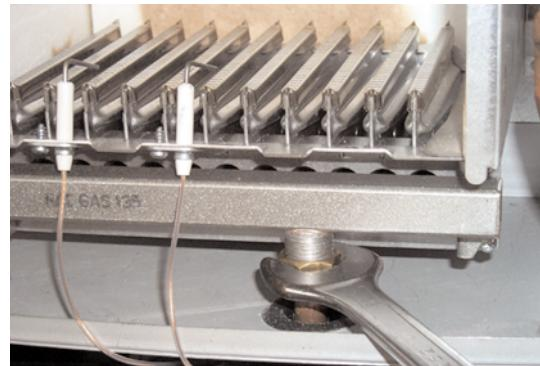

Fig. 47
2. Unscrew the nut between manifold and gas pipe (see Fig. 47).